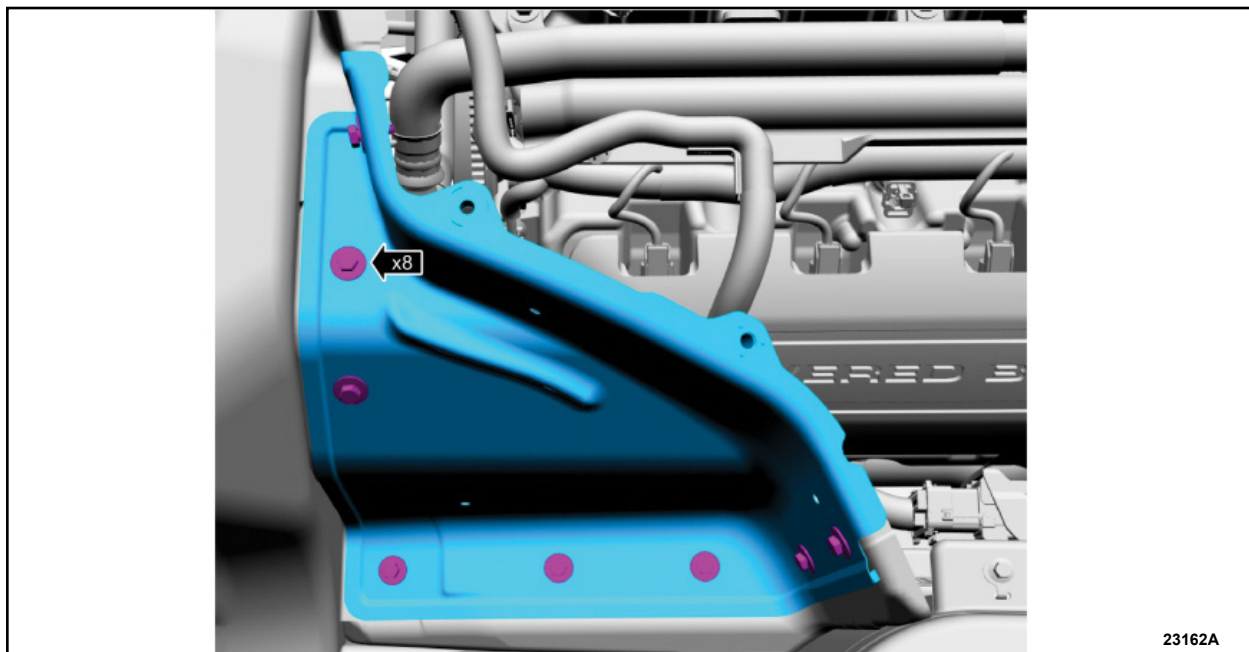

FIGURE 1
3. Remove the fasteners and the battery heat shield. See Figure 1.